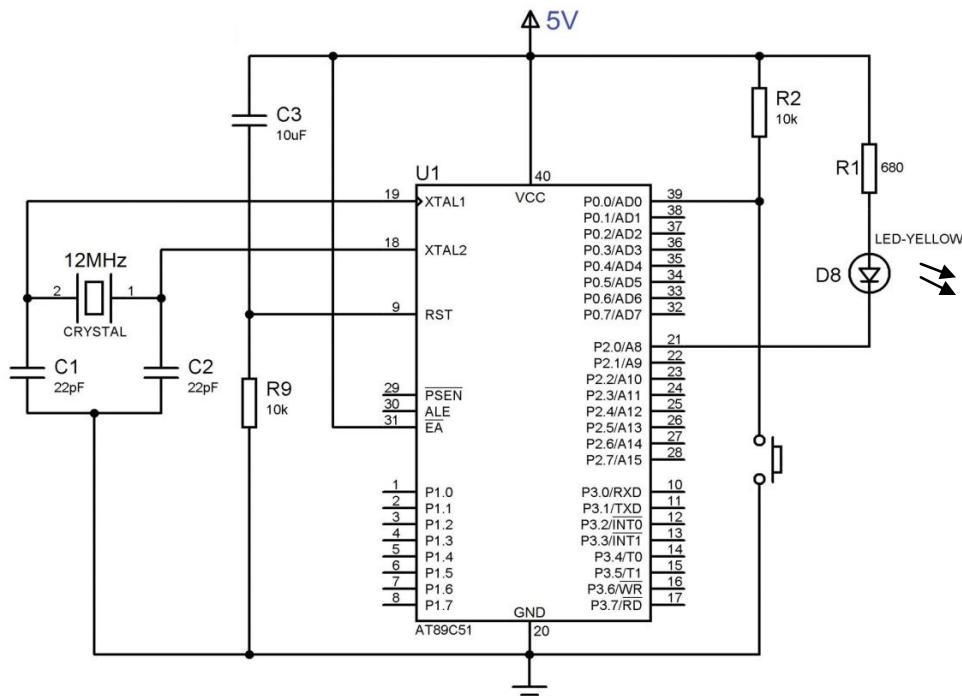

Figure 9.4: 89C51 connection to LED and switch
- 8 Interface LED to microcontroller as per circuit diagram shown in Figure. 9.4